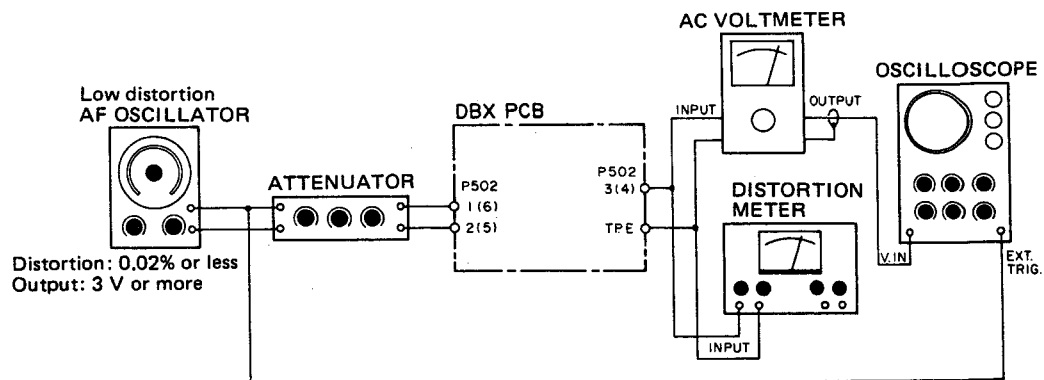

Fig. 5-12
2. Make the Fig. 5-12 connections, then feed a 1 kHz/-8 dB (308 mV) input signal to the INPUT terminal. Adjust R55/R65 (DECODING LEVEL) so that AC voltmeter reads -8 dB (308 mV).
3. Check that when the input signal is 100 Hz/-8 dB (308 mV), then 10 kHz/-8 dB, the output signal from 3(4) terminal (OUTPUT) deviates by -1 dB  $\pm$  0.5 dB, then +5 dB  $\pm$  0.5 dB from -8 dB (reference), respectively ..... so that output, as a voltage value, should be 652 mV to 731 mV for 100 Hz, and 1.30 V to 1.46V for 10 kHz.